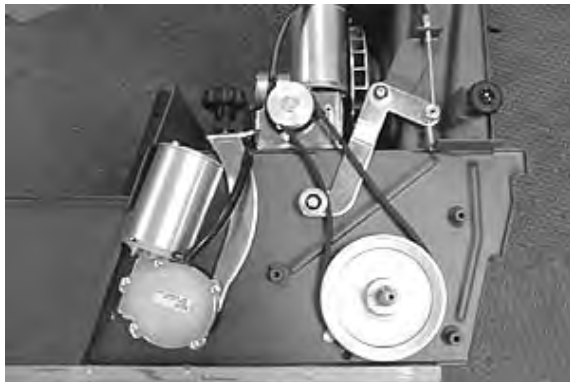

FIG. 6.
2. Replace the belt. Position belt to the right side of the belt tightener roller (Figure 6).